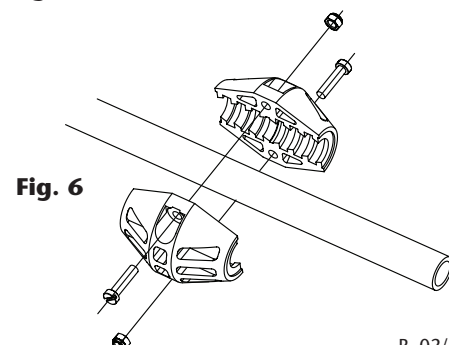

Fig. 6
4. Pass the hose end through the roller outlet to the desired length, lock the spool with the ratchet in the nearest position and place the hose stopper. (fig. 6).
7. Pass the hose end through the roller outlet to the desired length, lock the spool with the ratchet in the nearest position and place the hose stopper (fig. 6).